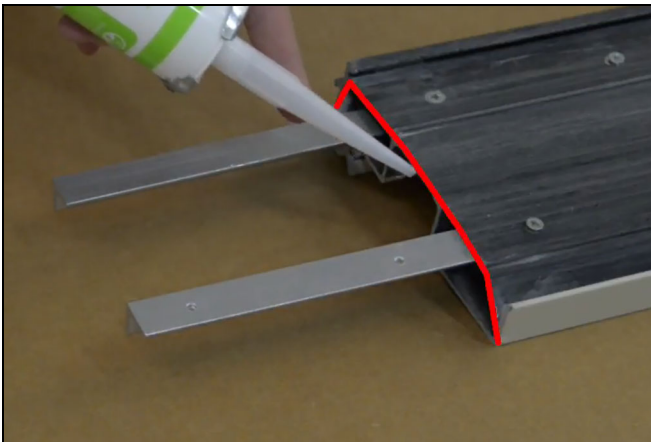

Figure 15
3. Apply sealant along the highlighted section. See Figure 15.